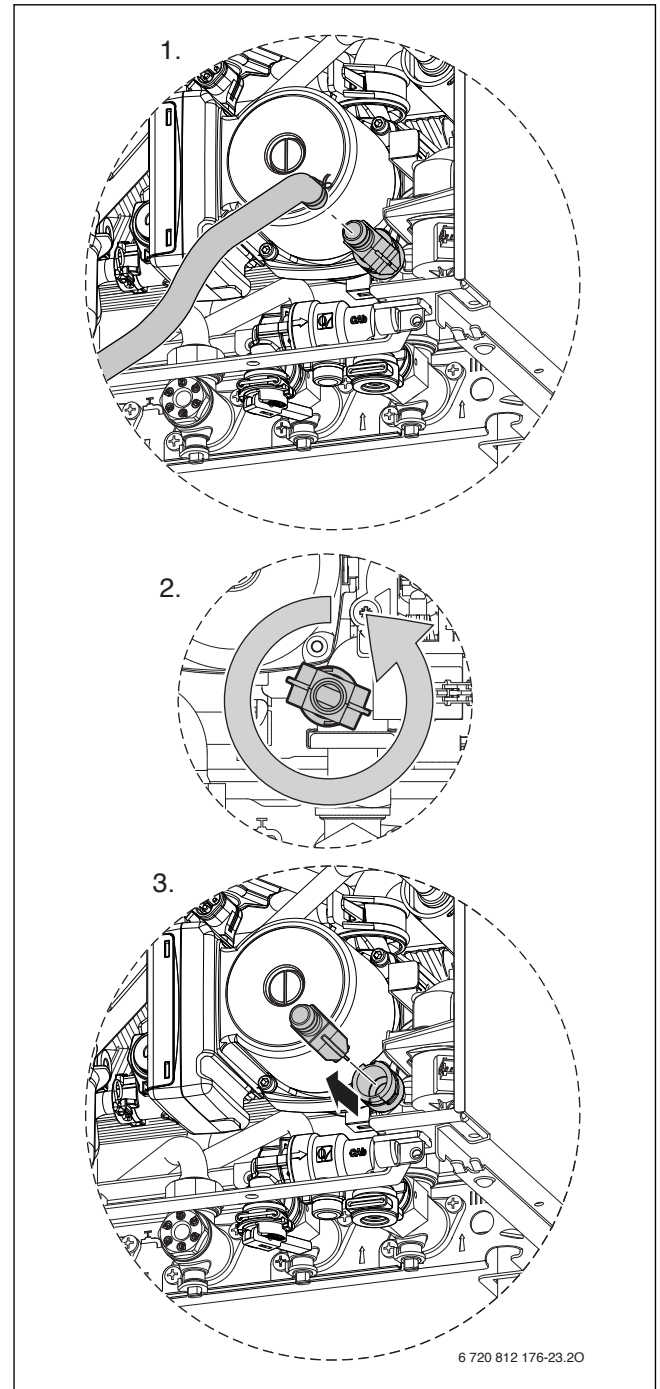

Fig. 96 Drain tap removal
- ▶ Disconnect the drain pipe from the drain tap (see e. g. step 1 in Fig. 96).